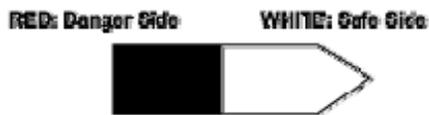

Figure 7-1. NATO Standard Marker.
1. **Cleared lanes through obstacles are clearly marked.** If available, NATO markers are used to mark a breach lane. Two horizontal lights, either white or green, illuminate the NATO marker at night. *See Figure 7-1.*